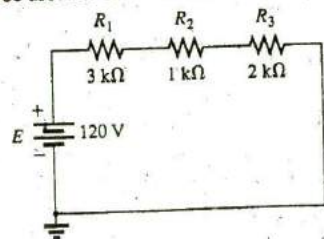

FIG. 5.97
13. For the circuit in Fig. 5.97, constructed of standard value resistors: